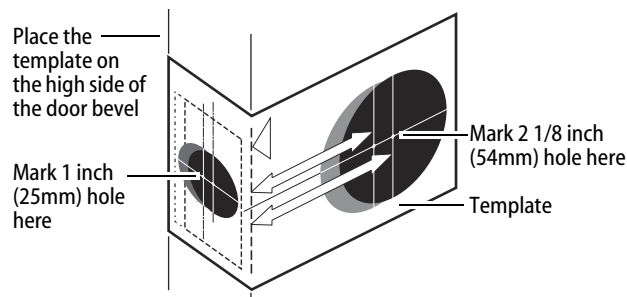

Figure 1 Marking the door with the door template
- 1 Cut out the door drilling template from the back of this instruction and fold and place it in position on the high edge of the door bevel. See Figure 1.